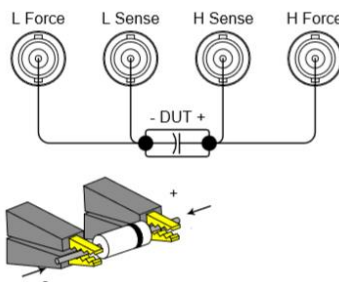

Figure 5
- (iv) Connect DCT (device under test) as shown in Figure 5;